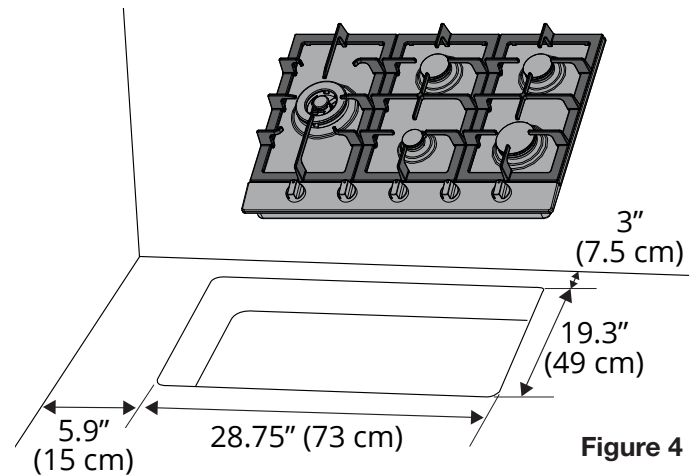

Figure 4
- 2 Cut the opening in the countertop. To ensure accuracy, it is best to make a template (see Figure 4) for the opening.